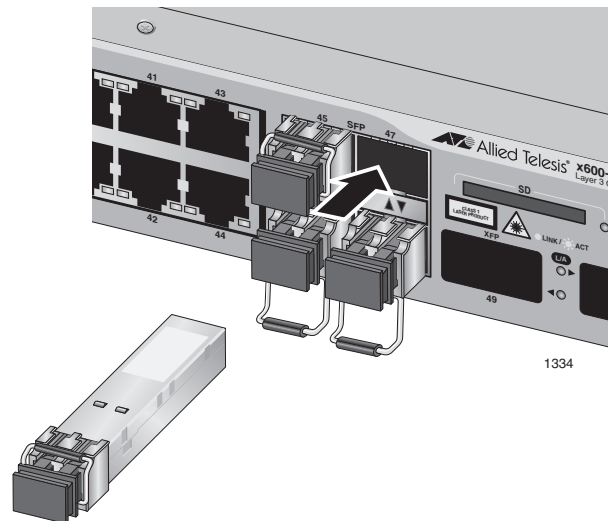

Figure 25. Positioning SFP Handles on the x600-48Ts and x600-48Ts/XP Switches
6. For the x600-48Ts and x600-48Ts/XP switches, verify that handles on the top two SFPs are in the up position and the bottom two SFPs are in the down position as show in Figure 25.